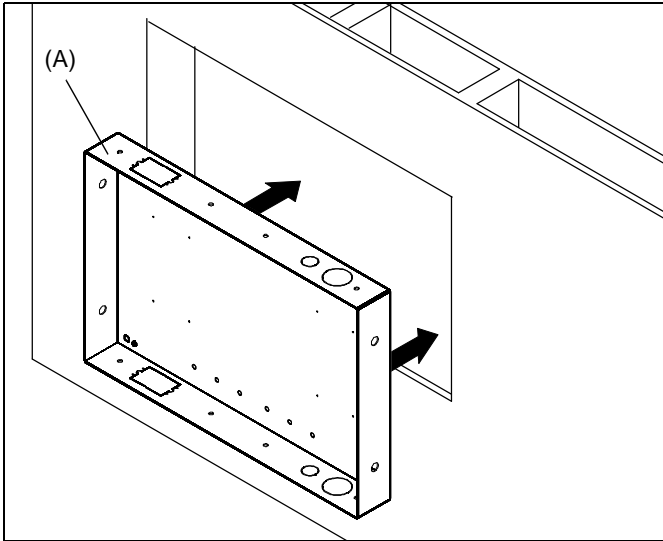

Figure 3
1. Install UL Listed electrical box accessory (not included) into the PAC501 (A) following instructions included with the UL Listed electrical box.
4. Center PAC501 (A) in opening and insert into opening. Align front of box with front face of wall. (See Figure 3)